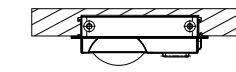

Fig. 5
- 8.2.2. Fit the endcap, fig. 5 where the mains lead exits.